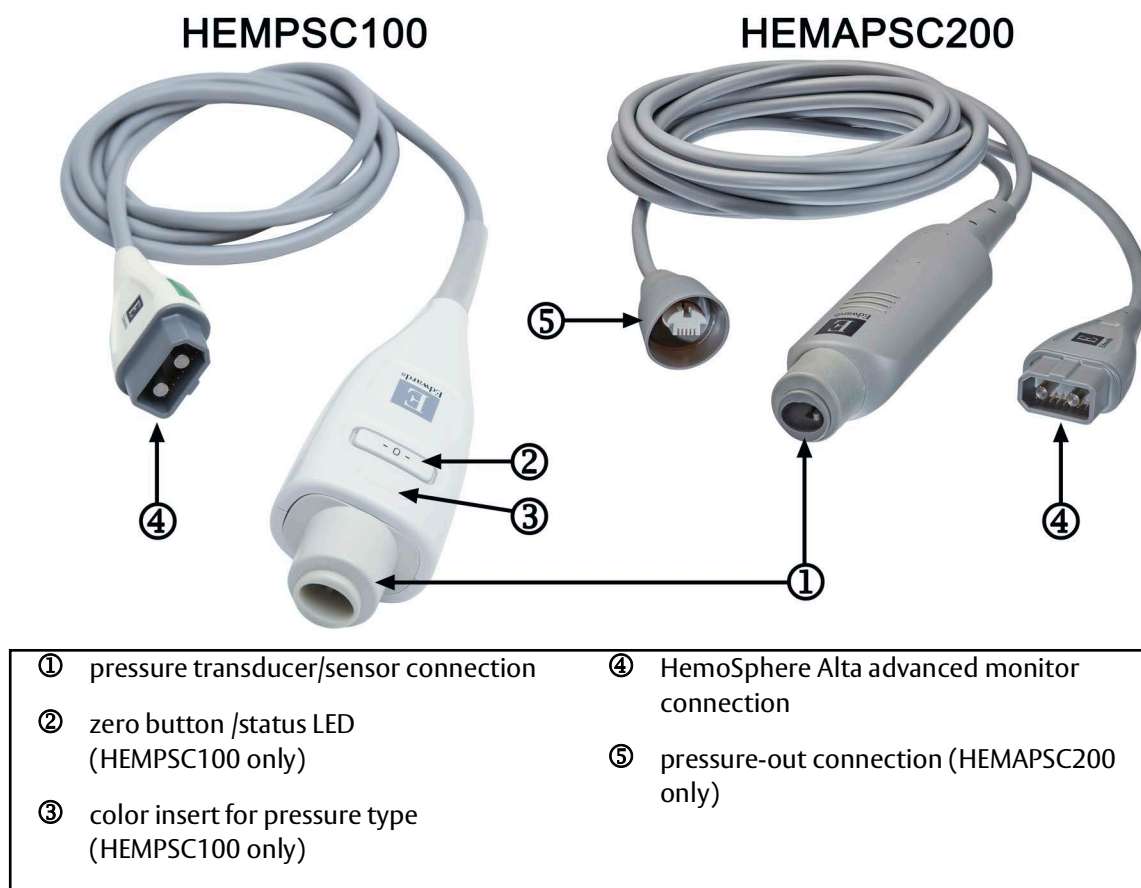

Figure 9-1 HemoSphere pressure cable
The HemoSphere pressure cable is a reusable device that connects with the HemoSphere Alta advanced monitor on one end ④ and any approved single Edwards disposable pressure transducer (DPT) or sensor on the other end ①. See Figure 9-1 on page 151. The HemoSphere pressure cable acquires and processes a single pressure signal from a compatible Edwards DPT, such as the TruWave DPT, or a FloTrac sensor. A FloTrac or Acumen IQ sensor connects to an existing arterial catheter to provide minimally invasive hemodynamic parameters. A TruWave transducer can connect to any compatible pressure monitoring catheter to provide location based intravascular pressure. Refer to the directions for use provided with each catheter for specific instructions on catheter placement and use, and for relevant warnings, cautions and notes. The connected technology type appears on the top of the parameter tile (see Figure 4-2 on page 78). The three technology types available are based on the paired sensor/transducer: **FloTrac** sensor, FloTrac Jr sensor, Acumen IQ sensor (**IQ Sensor**) or **TruWave** sensor. Parameters in the parameter configuration menu are categorized by technology. The appearance and connection points for the HemoSphere pressure cable are shown in figure 9-1.
Pressure Type Color Insert. If desired, the appropriate color insert can be used on the pressure cable to indicate the monitored pressure type (HemoSphere pressure cable only, HEMPSC100). See ③ in figure 9-1. The colors are as follows:
- 7 Use a straight in or out motion to connect the green connector of the primed FloTrac/FloTrac Jr sensor. The pressure cable LED that surrounds the zero button (see ② in figure 9-1) will flash green indicating that the pressure sensor is detected. A yellow light indicates a fault condition. If this occurs refer to the status bar for specific fault condition details.
Press the physical zero button  directly on the pressure cable (HEMPSC100 only) and hold for three seconds (see figure 9-1).